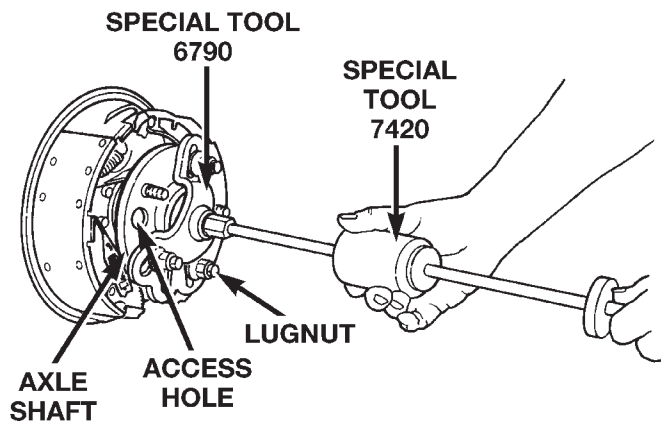

Fig. 11 Axle Shaft, Remove
(1) Hoist and support vehicle on safety stands.
(2) Remove wheel from vehicle.
(3) Remove brake drum. Refer to Group 5, Brakes, for proper procedure.
(4) Through access hole in axle flange, remove nuts holding axle retainer plate to axle tube.
(5) Using Slide Hammer 7420, Adapter 6790, and suitable lug nuts, pull axle shaft from vehicle (Fig. 11).